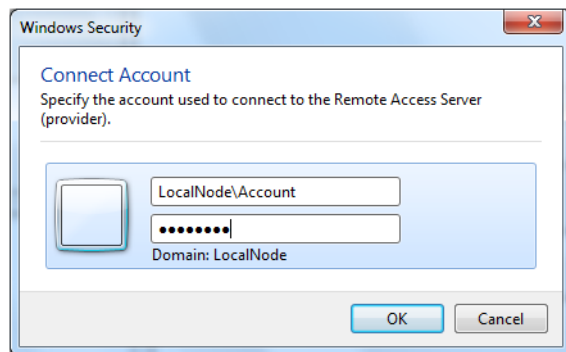

Figure 17. Connect Account
2. Specify the Account used to connect to the Remote Access Server (Provider) and click **OK**. See Figure 17.